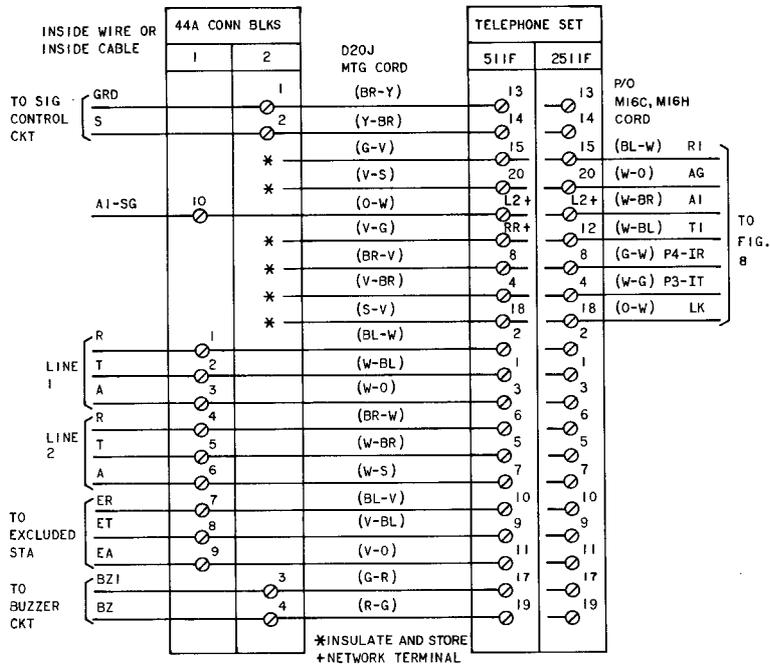

Fig. 5—511F (MD) and 2511F (MD) Telephone Set Connections, 2-Line Pickup With Exclusion on Line 1, Signaling, and 4A Speakerphone (Used With 1A1 or 1A2 KTS)
1.05 The 511D (MD) telephone set is factory-wired for non-KTS use (Fig. 4). The 511F (MD), 511H (MD), 511HM, 2511F (MD), 2511H (MD), and 2511HM telephone sets are factory-wired for use with 1A1 or 1A2 KTS (Fig. 5, 6, and 7).